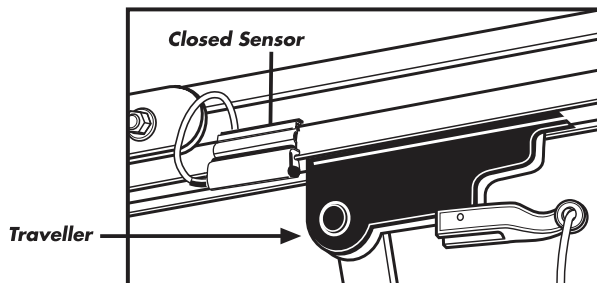

Figure 13
4. Move the “closed” sensor (sensor furthest away from the carrier box) until it aligns with the traveler assembly. (See figure 13)